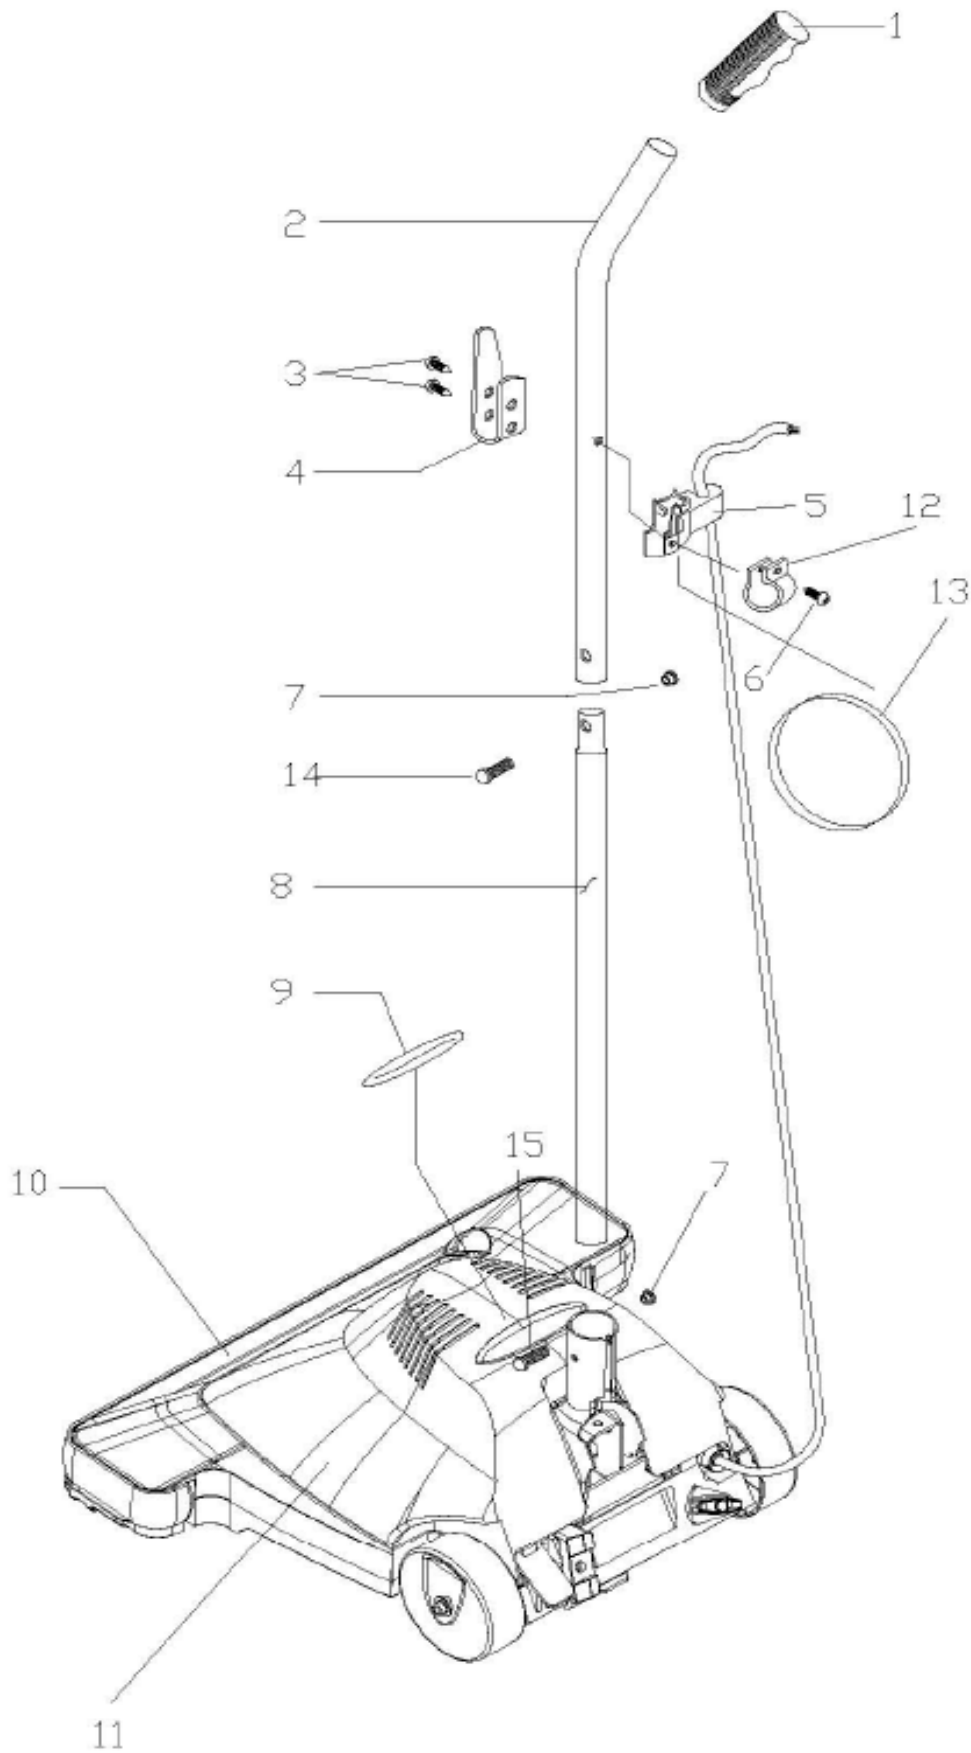

FIG.2
- 8.5.-Replace the motor (51)
9.-TO REPLACE HEIGHT ADJUSTMENT LEVER (15), FIG.2 AND FIG.4
- 9.3.-Remove the spring(10) and screw (44), to remove the retain for lever(17).
10.-TO FOOT RELEASE PEDAL (39) FIG.2 AND FIG.4
11.-TO REPLACE YOKE ASSEMBLY (54), FIG.2 AND FIG.4
- 11.3.-Remove the yoke bolt (31), along with the security locks (20)
12.-TO REPLACE THE LINE CORD ASSEMBLY (25), FIG.2 AND FIG.4
13.-TO REPLACE THE ON - OFF SWITCH (48), FIG.2 AND FIG.4.